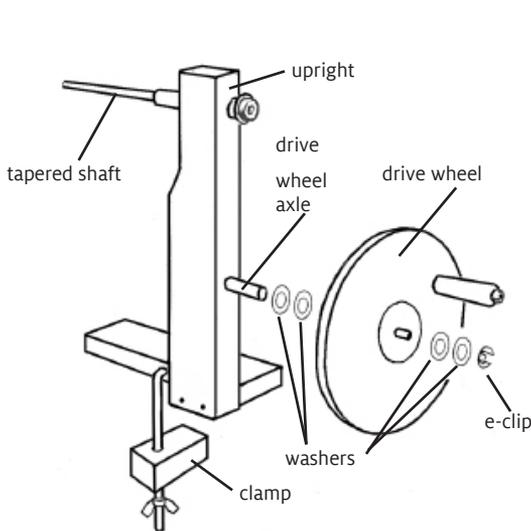

FIGURE 1
1. Clamp the bobbin winder to a table top. Place two 3/8" washers on the drive wheel axle. Place the drive wheel on the axle. Place two more washers on the drive wheel axle and secure the wheel in position by pressing the E-clip into the groove on the end of the axle (figure 1).